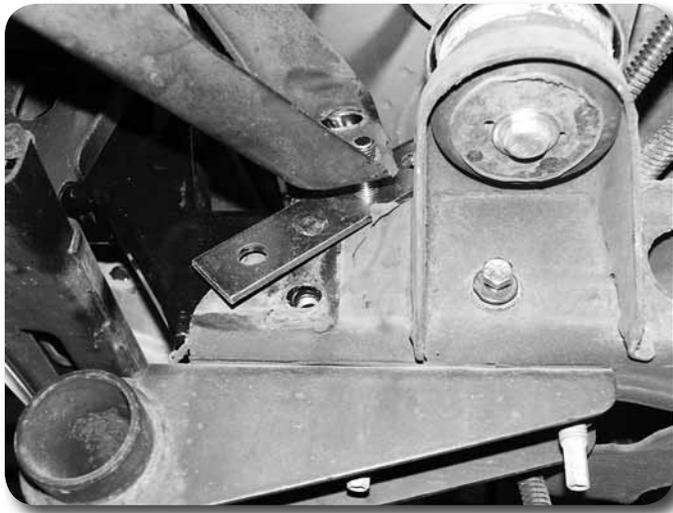

Figure 42
95. Rotate the outside relocation bracket forward and install the factory outer bumper support bracket on the top relocation bracket stud **Figure 42**. The stud goes in the bottom hole of the factory bracket. With the stud in the hole, rotate the assembly back vertical while aligning the factory outside bracket with the three studs in the rear bumper. Once the factory bracket is in the bumper, reinstall the three original nuts. Leave hardware loose.